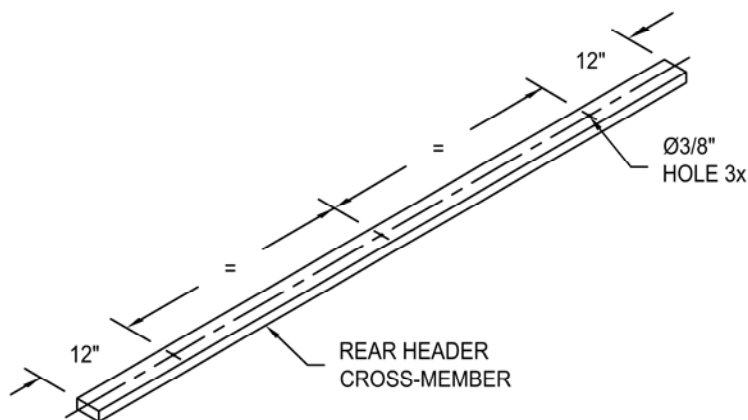

FIG. 7
- \* Lay rear header cross-member on floor and mark mounting holes with one (1) at center and one 12" in from each end (fig. 7).